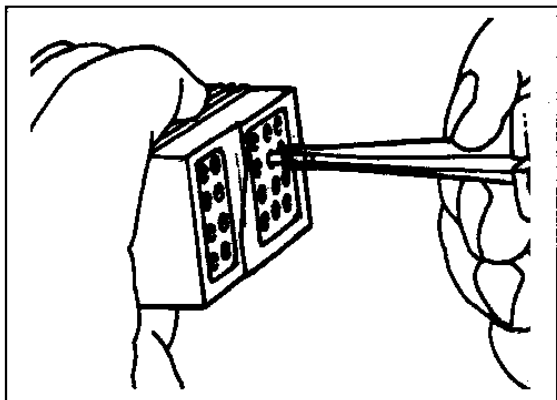

Figure 33 Snap Tool Over Wire of Terminal to be Removed
1. With the connector rear insert toward you, snap the appropriate size extractor tool (Deutsch Part No. 0411-204-1605) over the wire of terminal to be removed (Figure 33).